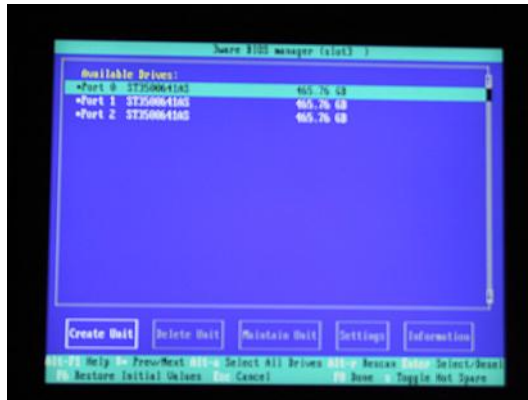

Figure 3-12
- 2) Press any key to continue, which will take you fully into the **3ware BIOS Manager**. Observe that the **Create Unit** option is selected by default. Use <Alt-A> to select all of the drives; asterisk "\*" characters appear to the left of each drive's port number to indicate that the drive has indeed been selected (Figure 3-12)